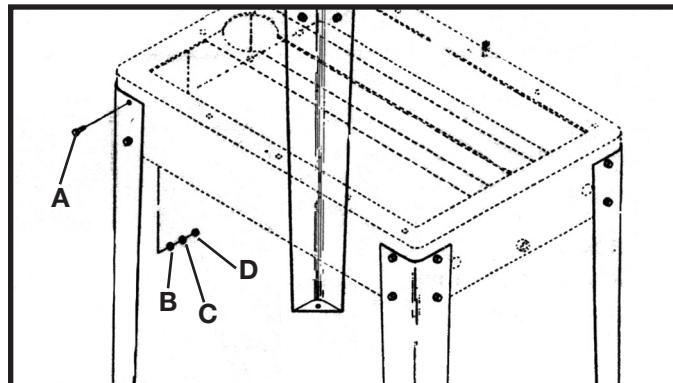
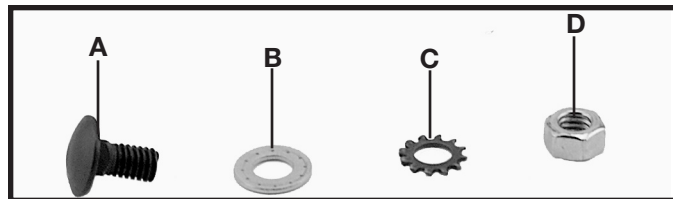

Fig. 4A
Fig. 4B
Carefully support the machine to the rear and brace the frame so the machine is balanced. Attach the four steel legs to each end of the base using sixteen 5/16-18 x 5/8" carriage head screws (A) Fig. 4A and Fig. 4B, 5/16" flat washers (B), 5/16" lockwashers (C) and 5/16" hex nuts (D). Return saw to upright position.